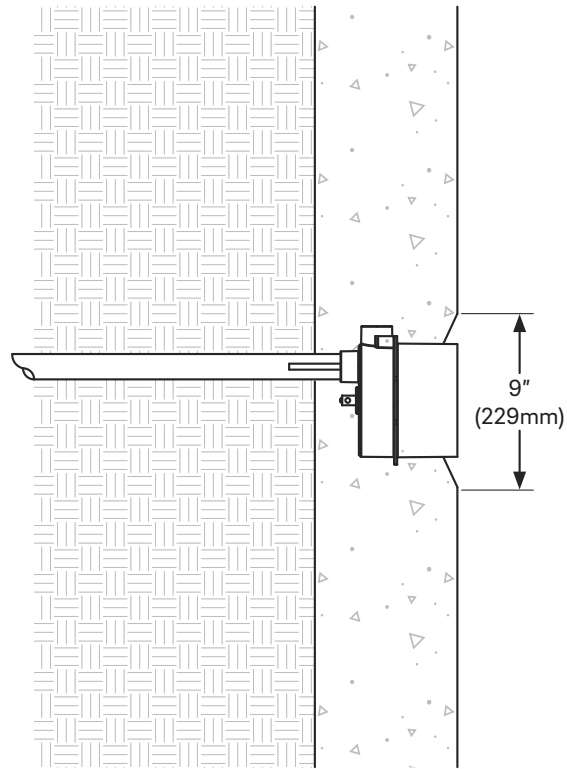

Figure 5
4. The outside bonding connection must be inspected before the concrete or gunite is applied. Follow applicable codes. It's important to maintain a 9" diameter undercut around the outside circumference of the niche to avoid having concrete or gunite harden on it's outer edge (Figure 5).